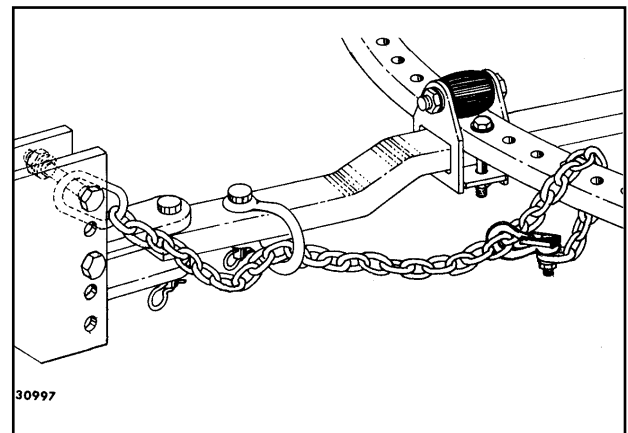

Figure 4-11 Transport Safety Chain Attached
- c. Thread chain through clevis, then attach chain around tractor drawbar frame. Adjust chain slack to allow chisel plow to turn (See Figure 4-11).